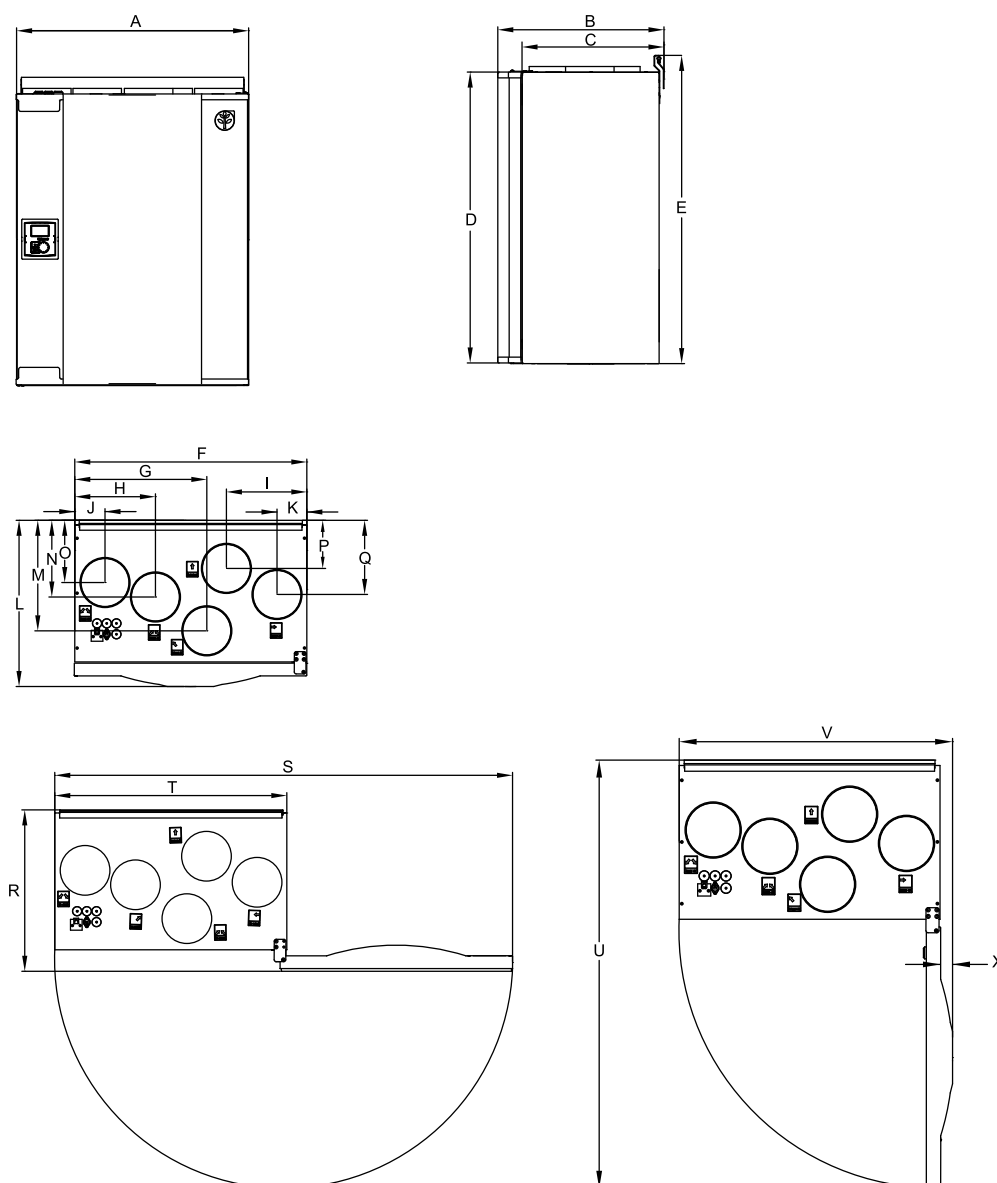

Fig. 1 Dimensions and weight, left hand unit
There are two model options, right (R) and left (L) model (figure 1). The different models are recognized by the supply air outlet, which is situated on left side of the unit on an (L) unit and on the right hand side on an (R) unit. Both models come with 500 W or 1000 W installed re-heater battery.